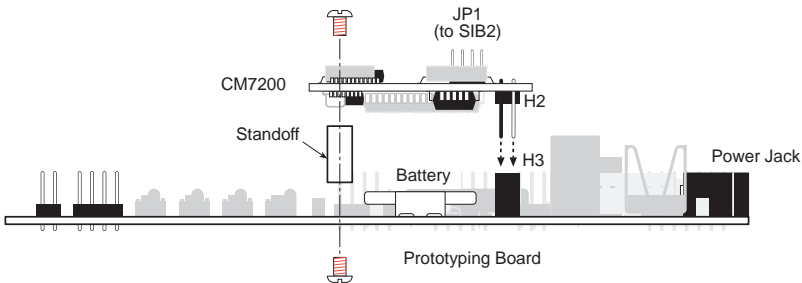

Figure 2-15. Connecting CM7200 to Prototyping Board
2. Plug the CM7200 into the Prototyping Board as shown in Figure 2-15. Plug header H2 of the CM7200 into connector H3 of the Prototyping Board. Pins 1 of the header and connector must match. The CM7200 will extend over the battery on the Prototyping Board. For maximum stability, install the supplied standoff between the CM7200 and the Prototyping Board.